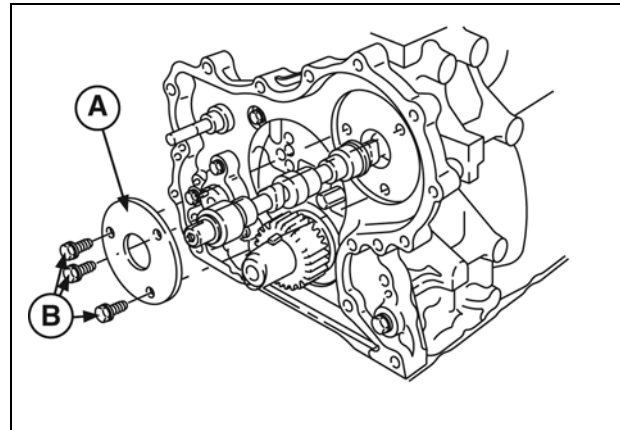

Figure 12
6. Install camshaft retainer (**A**, Figure 12).